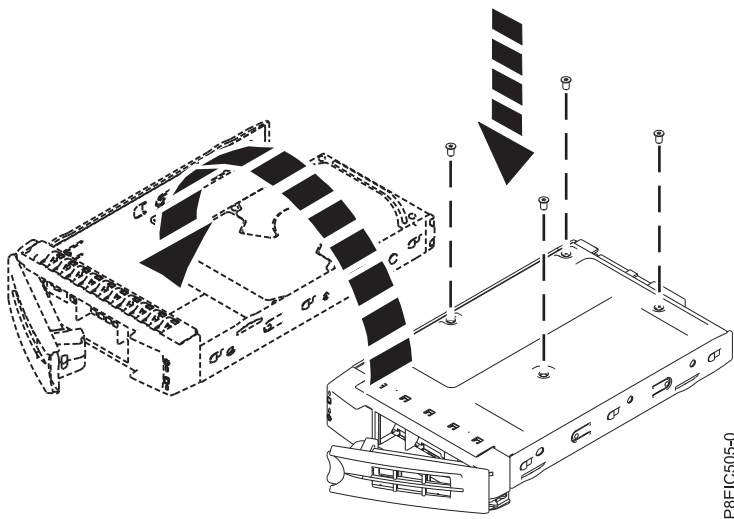

Figure 57. Mounting the 2.5 inch drive in the tray
- A 2.5 inch drive must be positioned at the rear of the tray. While you hold both the drive and the tray, turn the tray over. Fasten the drive to the bottom of the tray with four screws, as shown in Figure 57.